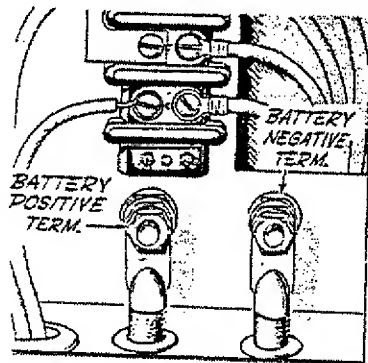

Fig. 5 Battery Connection
**BATTERY CONNECTION.** - For plants designed for electric starting, two 6-volt batteries (or one 12-volt battery) are required to supply starting current. When two 6-volt batteries are used, use the short jumper battery cable to connect the positive (+) post of one battery to the negative (-) post of the second battery, connecting them in series for 12 volts. Connect the remaining battery terminal posts to the proper terminals in the terminal box on the generator, Fig. 5. Do not reverse the connections, taking care to observe correct polarity as shown.